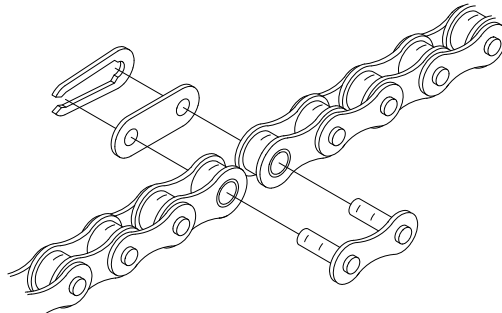

Figure 10 Chain link
3. Connect the sprockets with the drive chain, shorten to a suitable length and join together with the chain link provided in the hardware bag. To shorten the chain, punch out the pin that will leave an inside link nearest to the desired length. Connect the chain around the sprockets using the chain link (Figure 10).